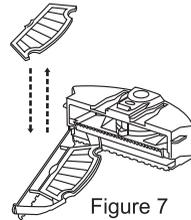

Figure 7
5. Change a new filter, press the semicircle bracket by one hand to release the fastener from the filter screen, and remove the filter grid by the other hand and then change a new one. (Refer to Figure 7)